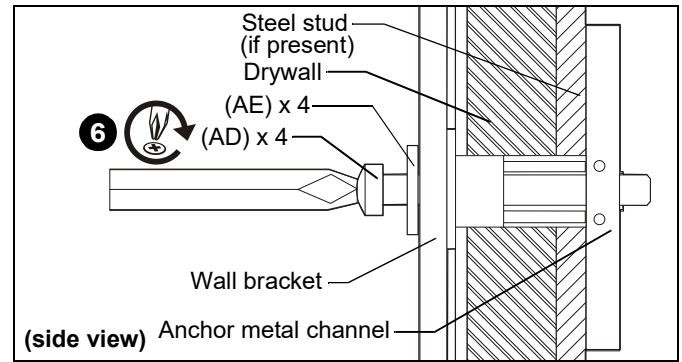

Figure 21
6. Insert 1/4-20 x 1-3/4" Phillips pan head screw (AD) through 1/4" washer (AE), corresponding mounting hole in wall bracket and into anchor (AC), and tighten until flush against wall bracket. **DO NOT** over tighten! (See Figure 21)